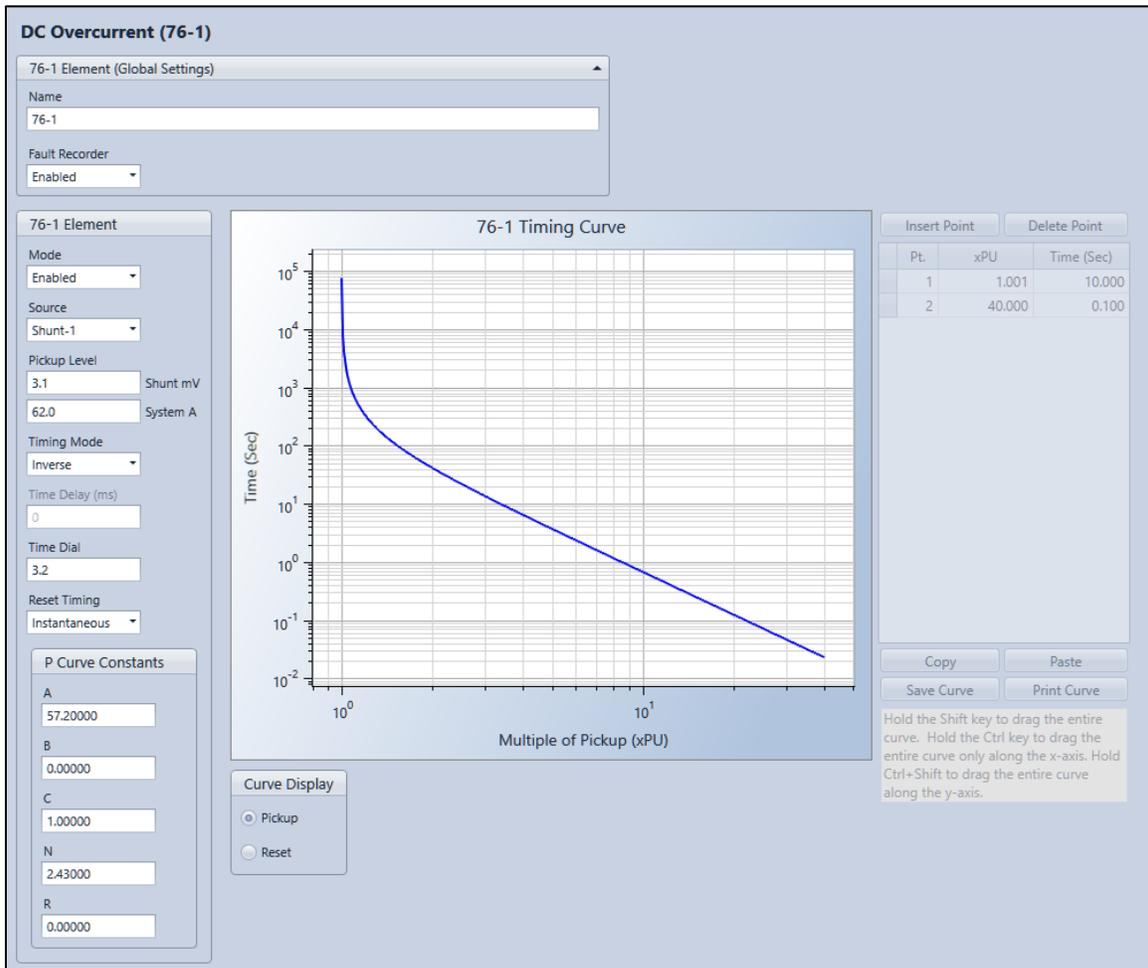

Figure 34-2. DC Overcurrent Settings Screen
Inverse overcurrent element operational settings are configured on the DC Overcurrent (76) settings screen (Figure 34-2) in BESTCOMSPlus.